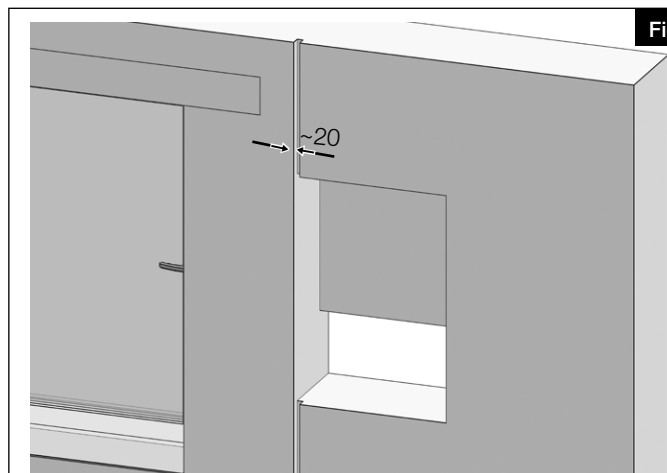

Fig.7
3. Wall groove for the mains connection cable, either from below or from above guide to the correct position (see Fig.7).